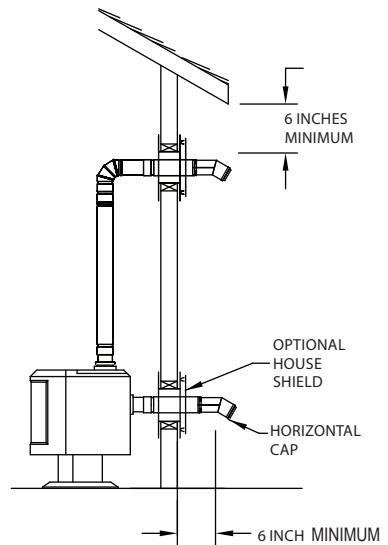

Figure 6
5. If the flue exit is on back of the stove, and a horizontal through-the-wall installation is desired (**Figure 6**):
B. Connect the Pipe Adapter to back of stove and attach sufficient pipe to penetrate Wall Thimble and extend at least 6" beyond the exterior wall. You may install the optional House Shield as shown in **Figure 6**. The House Shield is used to protect the exterior wall from vent discharge. Attach a Square or Round Horizontal Cap. The Round Horizontal